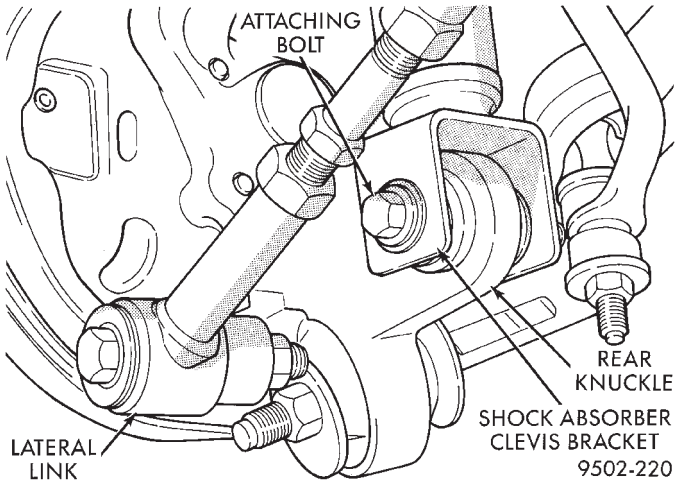
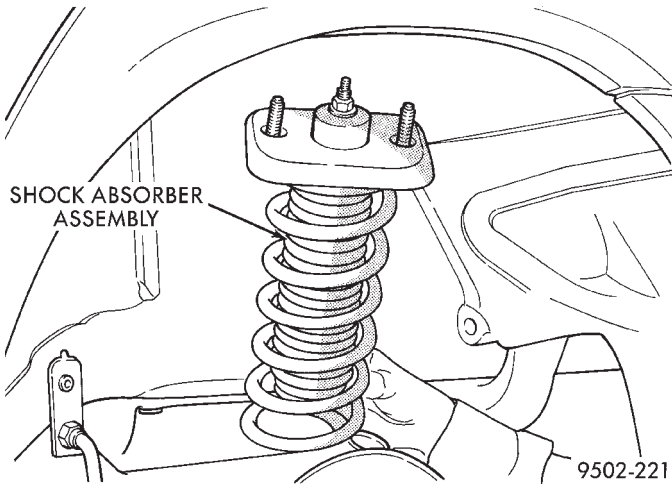

Fig. 5 Shock Absorber Attachment To Knuckle
Fig. 6 Shock Assembly Removal/Installation
- (4) Raise vehicle on jackstands or centered on a frame contact type hoist. See Hoisting in the Lubrication and Maintenance section of this manual, for the required lifting procedure to be used for this vehicle.
- (5) Remove the rear wheel and tire assembly from the vehicle.
- (6) Remove bolt attaching shock absorber to rear knuckle (Fig. 5).
- (7) Remove the shock absorber from the rear knuckle first, when removing the shock absorber from vehicle by pushing down on the rear suspension.
- (8) Move shock assembly downward and tilt top of shock outward. Then remove shock assembly from vehicle through top of wheel opening (Fig. 6).
- (1) Install shock assembly back in vehicle using the reverse sequence of removal (Fig. 6).
- (2) Install upper shock mount into the mounting holes in rear shock tower.
- (3) Push down on rear knuckle to obtain clearance and then install shock absorber clevis bracket on rear knuckle.
- (4) Align clevis bracket on shock absorber with bushing in knuckle. Install and tighten bolt (Fig. 5) to a torque of 95 N·m (70 ft. lbs.).
- (5) Lower vehicle far enough to gain access to the trunk.